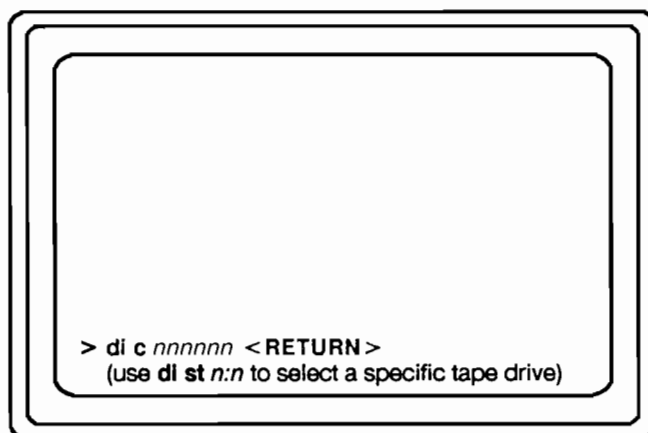

Figure 8-19. Directing a Memory Dump to a Cartridge Tape
3. Type the command shown in Figure 8-19 to direct the memory dump to the cartridge tape.